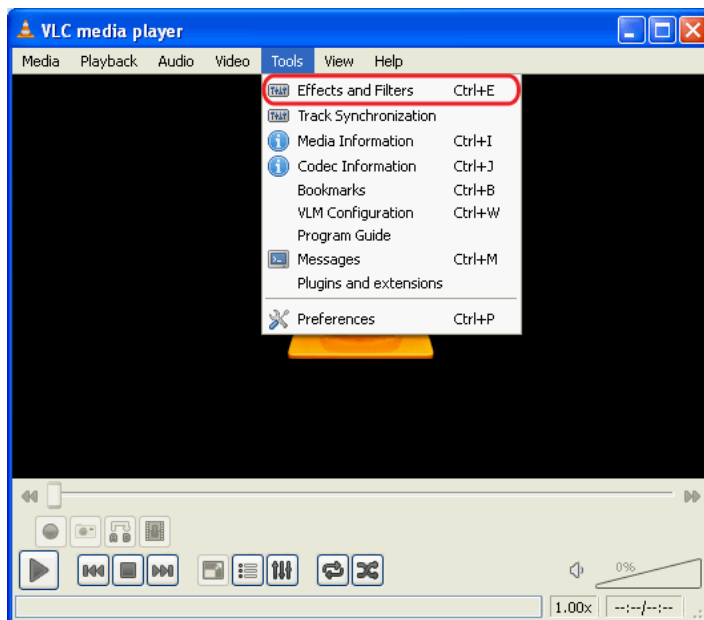

Figure 54. VLC media player — Effects and Filters
- The VLC media player appears. While playing a SME 100 stream (see the "Playing a Stream Using VLC Media Player" section on page 158), from the **Tools** menu, select **Effects and Filters** (see figure 54).